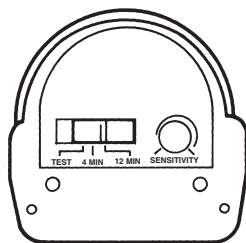

Fig. 6
1. Move slide switch on bottom of the sensor to "TEST". Set sensitivity knob to medium (halfway) (Fig. 6).